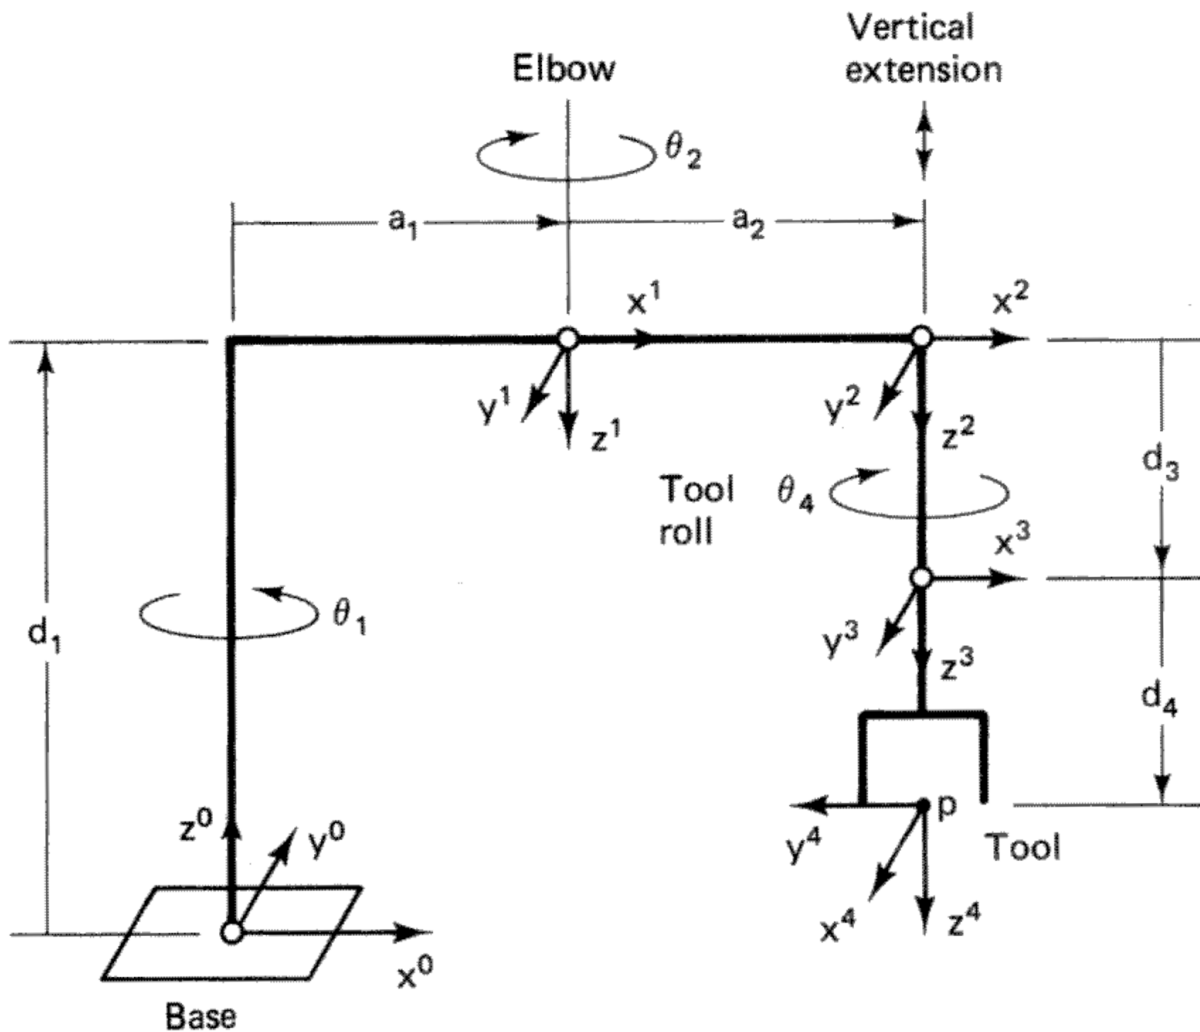

Figure 4: SCARA manipulator (Adept One).
Task 2.4 (7 points) DH-Parameter SCARA: An important type of manipulator is the SCARA type, a manipulator with four vertically aligned joint axes. Figure 4 shows the joint coordinate frames of such a manipulator (Adept One).
2.4.1 (2 points): Verify the manipulator shown in Figure 4 according to the Denavit-Hartenberg convention.